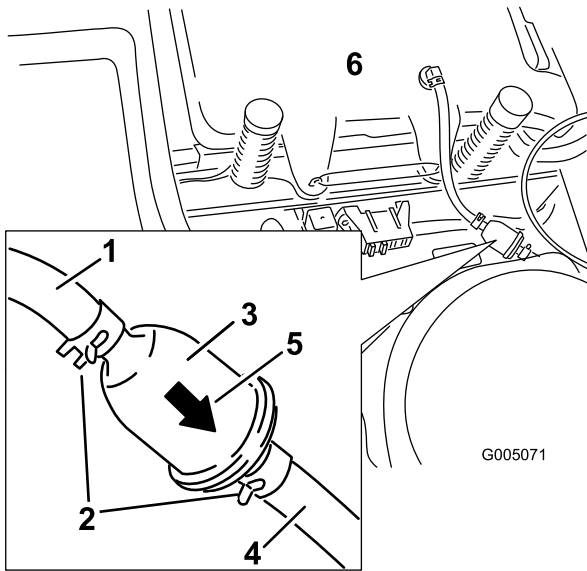

Figure 33
4. Squeeze the ends of the hose clamps together and slide them away from the filter (Figure 33).
6. Install a new filter with the flow direction arrow coming from the fuel tank and pointing to the engine. Move the hose clamps close to the filter (Figure 33) to secure it in place.